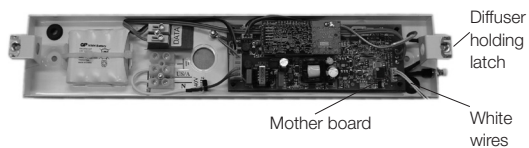

Figure 2: Connect wire loom plug to the mother board
4. Once the base is secured to the ceiling, hold the diffuser assembly in your hand and connect the diffuser wire loom polarised plug to the mother board (refer figure 2), the white wires on the plug should be towards the centre of the unit. Once the plug is connected, lay the wire loom carefully inside the base. Place one end of the diffuser in the diffuser holding latch hole (refer figure 2) and then push up the other side of the diffuser, the diffuser clicks and locks in place. Once the diffuser is locked in place, the cover is easily fixed to the base via 2 screws. Hold the cover in your hand and bring up to the base, pass diffuser through the cut out; make sure the side rectangular cut out on the cover for the LED and test switch lines up with LED and test switch on the base. Once the holes on both sides of the base and cover line up, secure with the screws provided.